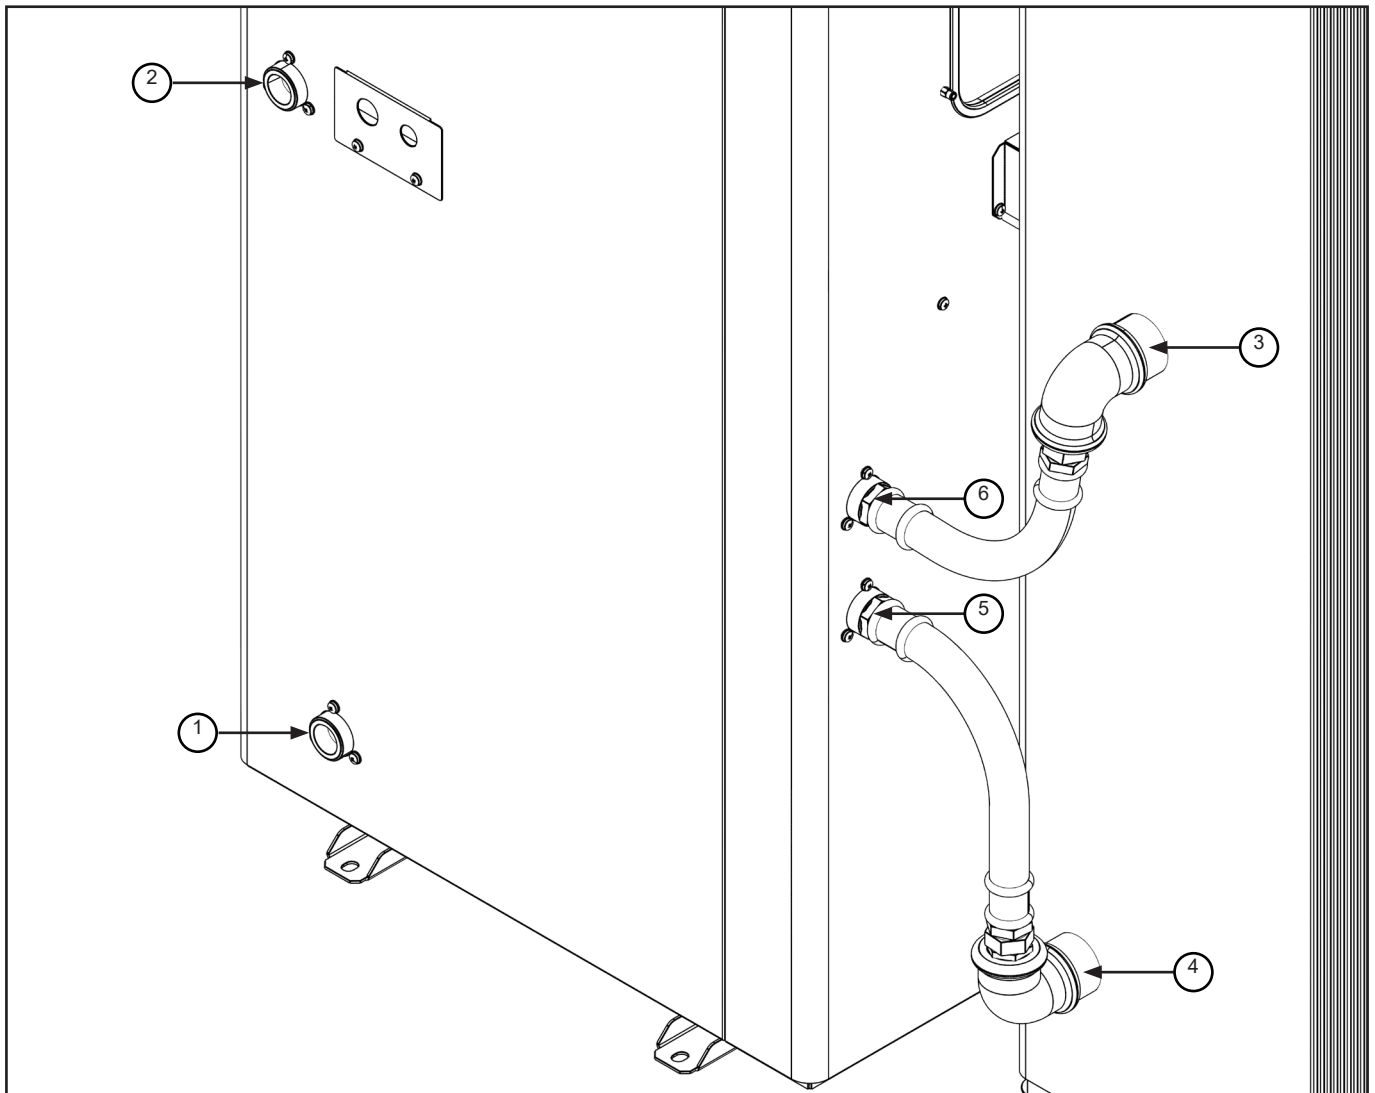

Figure 5-2: Flow and return connections
To do this the heat pump flow and return connections on the boiler, located at the rear of the left side casing panel (see Figure 5-2), must be connected together.
1. Using a suitable thread sealant or PTFE tape, screw one of the two flexible hoses into the 1" BSPF 'Heat Pump Flow' connection on the boiler. See item 6 of Figure 5-2.
2. Repeat the above process to fit the second flexible hose to the 1" BSPF 'Heat Pump Return' connection on the boiler. See item 5 of Figure 5-2.
3. Using a suitable thread sealant or PTFE tape screw the 1" BSPM x 28mm tail into the 1" x 1 1/4" elbow. Then fit the elbow to the flow connection (the higher of the two connections) on the rear of the heat pump. See item 3 of Figure 5-2.
1. Using a suitable thread sealant or PTFE tape screw one of the 1" x 1 1/4" elbows (supplied with the boiler) on to the flow connection (the higher of the two connections) on the rear of the heat pump. See item 3 of Figure 5-2.
2. Repeat the same process for the return connection (the lower of the two connections) on the rear of the heat pump. See item 4 of Figure 5-2.
4. Connect the other end of this flexible hose to the flow pipe from the boiler using the 28mm compression connection. See item 6 of Figure 5-2.
5. Repeat the above process to fit the second flexible hose between the elbow on the heat pump return connection and the return pipe to the boiler. See item 5 of Figure 5-2.